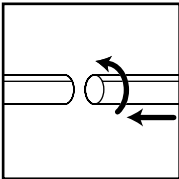

FIGURE 1
6. Attach the extension wands (not standard with all models) to the accessory end of the hose. Twist slightly to tighten the connection. **FIGURE 1.**
7. Attach one of the cleaning accessories (depending on your cleaning requirements) on the extension wands. Twist slightly to tighten the connection. **FIGURE 1.**